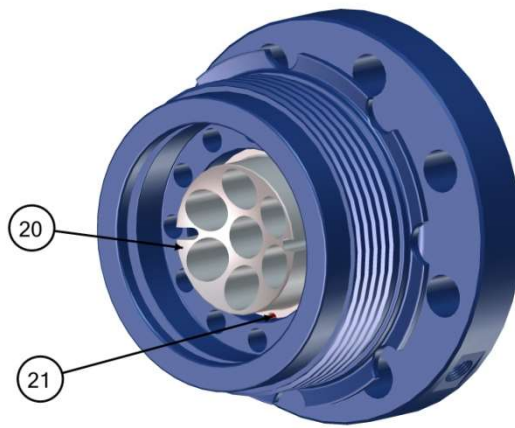

FIGURE 6
- 1) To remove the pig stopper (20) (**FIGURE 6**) from the tailpiece the 1/8" split pin (21) must be driven into the tailpiece using an appropriate size punch.